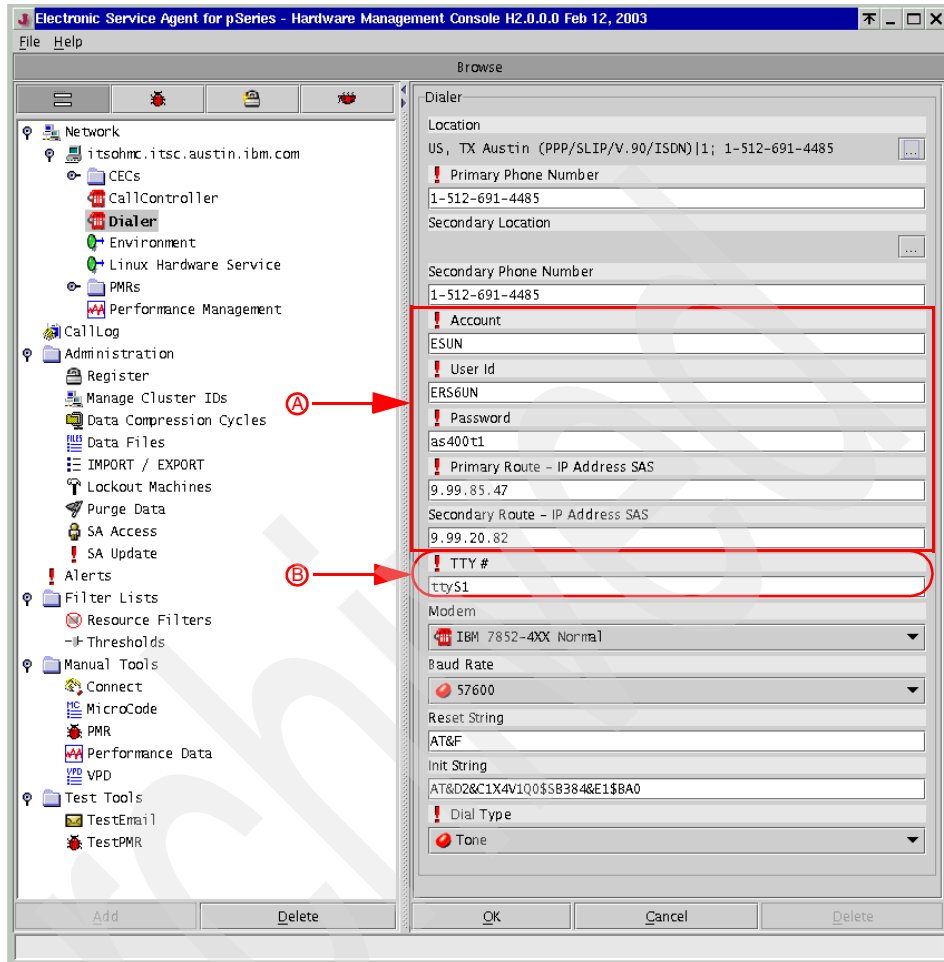

Figure 12-4 Service Agent: configured dialer
18. Now all of the Service Agent dialer configuration fields should be automatically filled out as shown in Figure 12-4 on page 285. Click **OK** and the dialer should be properly configured.
- ▶ Fields indicated by A in Figure 12-4 on page 285 should not be modified, unless you are instructed to do so by IBM Support.
- ▶ As indicated by B in Figure 12-4, specify the following value in the TTY# field depending on the serial port to which the modem is connected on your HMC: